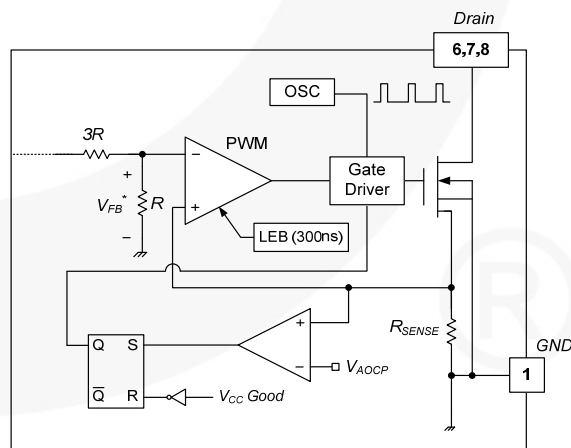

Figure 23. Abnormal Over-Current Protection
4.2 Abnormal Over-Current Protection (AOCP): When the secondary rectifier diodes or the transformer pins are shorted, a steep current with extremely high di/dt can flow through the SenseFET during the minimum turn-on time. Even though the FSL156MRIN has overload protection, it is not enough to protect the FSL156MRIN in that abnormal case; due to the severe current stress imposed on the SenseFET until OLP is triggered. The internal AOCP circuit is shown in Figure 23. When the gate turn-on signal is applied to the power SenseFET, the AOCP block is enabled and monitors the current through the sensing resistor. The voltage across the resistor is compared with a preset AOCP level. If the sensing-resistor voltage is greater than the AOCP level, the set signal is applied to the S-R latch, resulting in the shutdown of the SMPS.